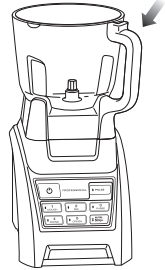

Fig. 3a
- 4 The bowl can be placed on the motor base two ways; the handle can be on the front right corner or the front left corner. (Fig. 3a, Fig. 3b)